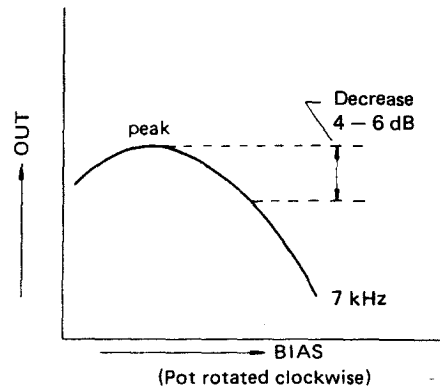

Fig. 2-15. Bias Limit Chart
6. Begin adjustment by turning the trimmer (C134) completely counterclockwise. Next, loosen and turn the trimmer clockwise and the AF level meter will rise to give peak reading. Slowly continue the clockwise rotation until the reading on the level meter drops 4 - 6 dB from the peak reading as shown in Fig. 2-15.